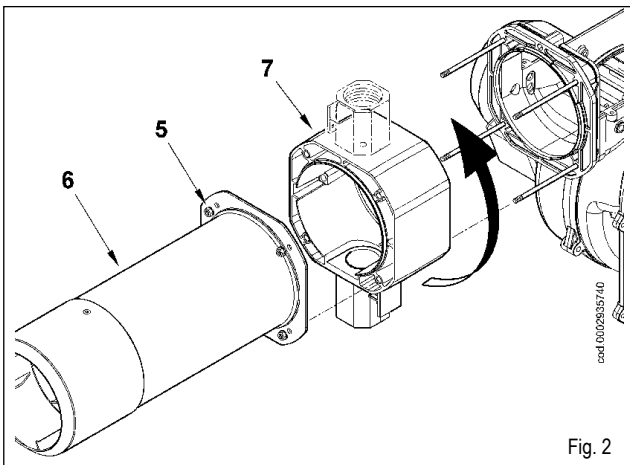

Fig. 2
- 2) Make sure that mobile plate 3 is held in place by screw 4. This will permit the mixer unit to be reassembled in the position adjusted previously after completion of maintenance work. Slacken screw 5, which anchors the unit's forward movement rod to the mobile plate (figure 2).
- 3) Now remove the 4 nuts (5) in figure 2, dismantle the flame tube (6) and, after pulling off the lung (7) from its stud bolts, put it back in position with the threaded connection for anchoring the gas train turned upward.
- 4) To complete the operation, anchor the flame tube (6) and the lung (7) in place with the 4 nuts (5), then put the mixing unit back in its housing.